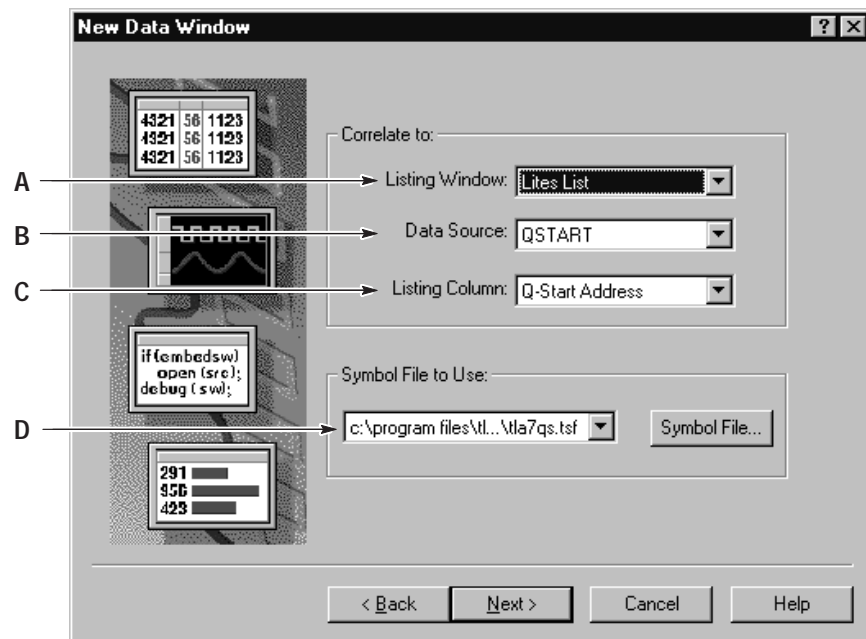

Figure 4–3: New Data Window wizard dialog box
14. Select “An existing Listing window.” Click Next. The dialog box in Figure 4–3 appears.
**NOTE.** Before clicking on the Next button in this dialog box, take note of the required information to correlate a Source window with a Listing window. The labels in Figure 4–3 identify this information. These parameters were preset for this exercise; you will need to provide your own information in future instances.